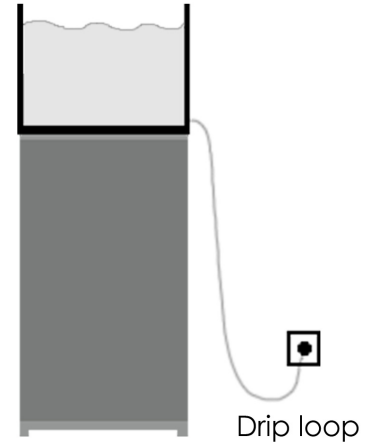

Fig. 1
- b. To avoid the possibility of the appliance plug or receptacle getting wet, position the aquarium stand and tank to one side of a wall mounted receptacle to prevent water from dripping onto the receptacle or plug. You should create a “drip loop” (see Figure 1) for each cord connecting an aquarium appliance to a receptacle. The “drip loop” is that part of the cord below the level of the receptacle, or the connector. Use an extension cord, if necessary, to prevent water traveling along the cord and coming into contact with the receptacle. If the plug or receptacle does get wet, DO NOT unplug the cord. Disconnect the fuse or circuit breaker that supplies power to the appliance. Then unplug the device and examine for presence of water in the receptacle.